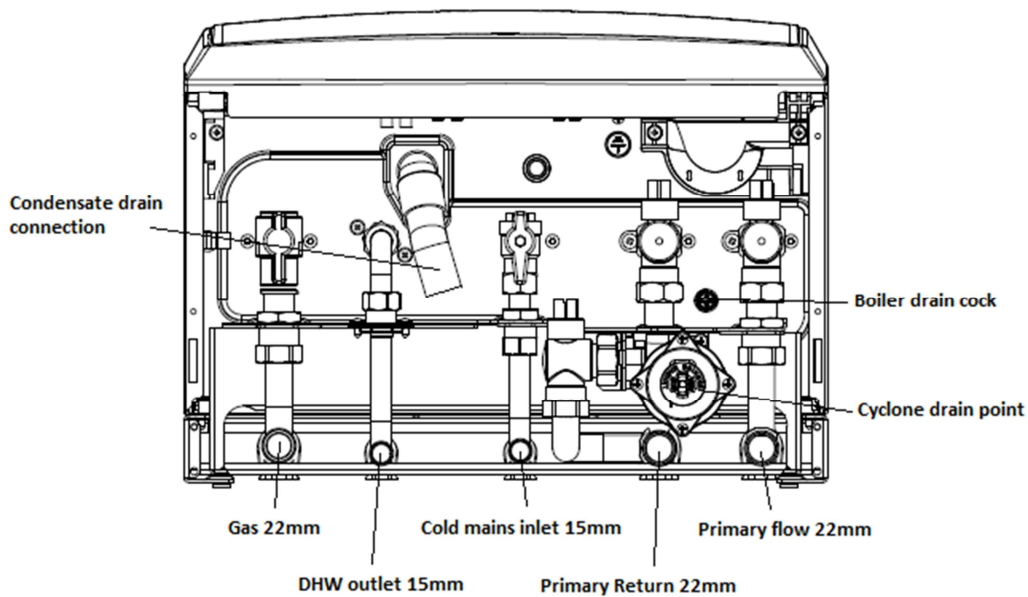

Fig.3
b. Water Connections - See Fig. 3